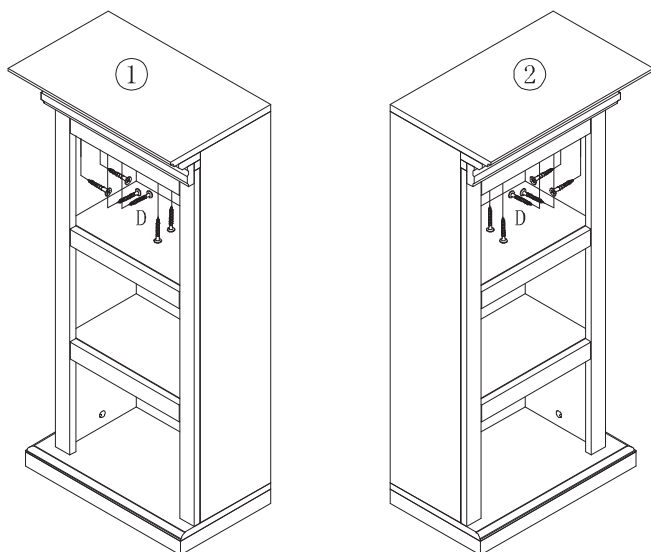

Figure 4
PLACE THE BOOKCASE TOPS (1,2) ONTO TOP EDGES OF LEFT AND RIGHT SIDES OF BOOKCASES (3,4,5,6). INSERT 12PCS FLAT HEAD LONG SCREWS (D) THROUGH PREDRILLED HOLES ON PARTS (3, 4, 5, 6) AND TIGHTEN INTO CORRESPONDING HOLES ON UNDERSIDE OF BOOKCASE TOPS (1.2). AS FIGURE 4 SHOWN.